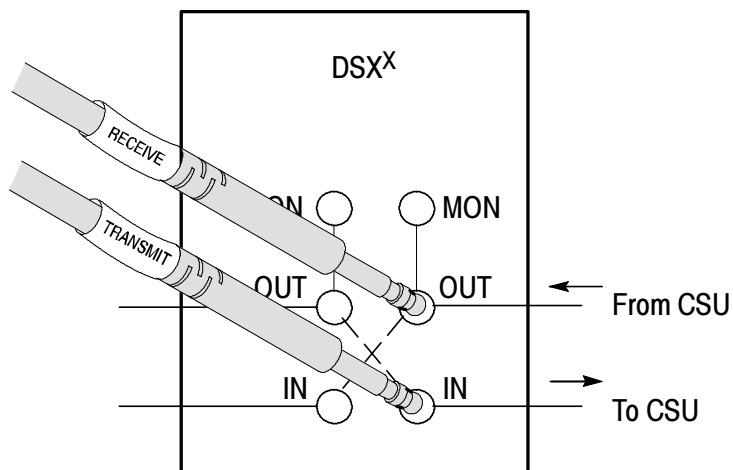

Figure 3-5: Typical connections for loopback mode
3. Connect the “Transmit” Bantam plug or alligator clips to the IN or OUT side of the service access, depending on the circuit you want to terminate. Connect the “Receive” Bantam plug or alligator clips to the other side of the line for monitoring purposes. See Figure 3-5.